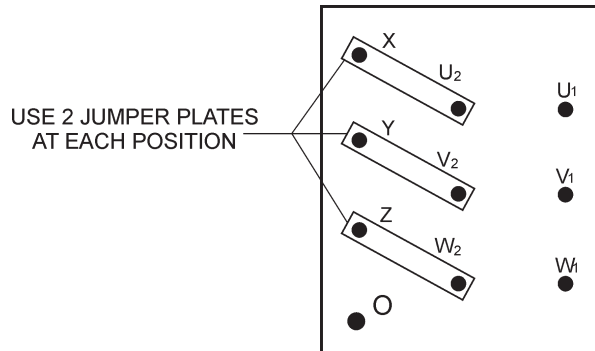

Figure 27. Voltage Change-Over Board
1. Jumper the voltage change-over board for 480V operation as shown in Figure 27. This configuration uses 6 jumper plates in 3 different positions. Remember there are 2 jumper plates at every position. Every jumper plate must be used.
1. Make sure the voltage change-over board is jumpered for 480V operation as shown in Figure 27.